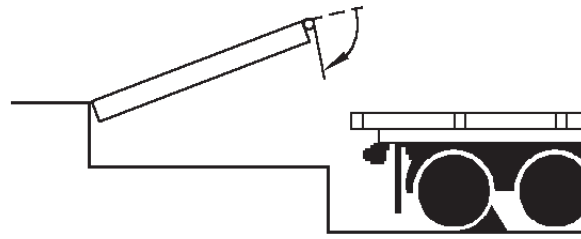

Figure 17
6. When loading or unloading is finished, raise the platform by pressing and holding the RAISE button until the lip clears the transport vehicle and folds enough to land in the lip keepers, then release the RAISE button. The platform will return to the cross-traffic position. See Figure 17.